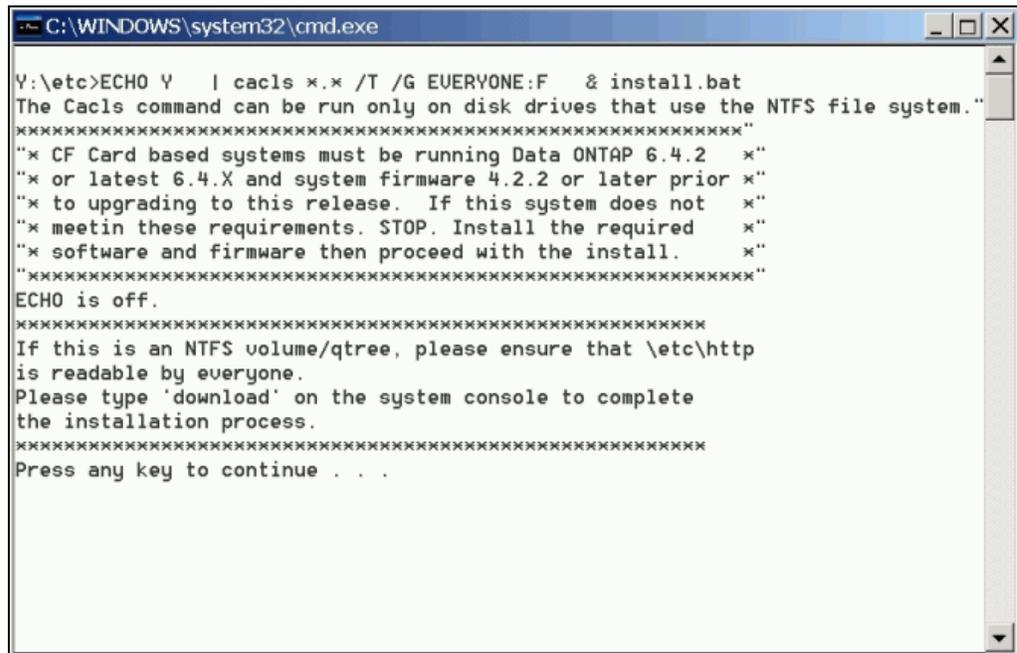

Figure A-14 Script output
- g. Check the script output for minimum requirements. See Figure A-14.